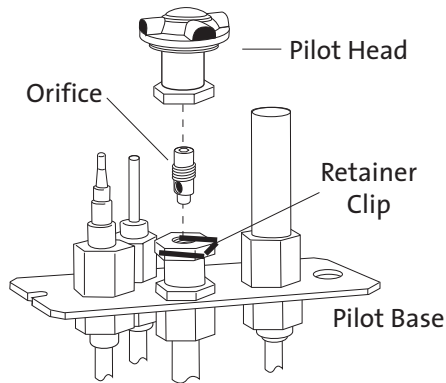

Figure 20. Pilot orifice removal and replacement.
10. Change the Pilot Orifice: From within the firebox, remove the Pilot Head by pulling it straight up from the pilot base. See fig. 20.
11. Tighten orifice into the base of the pilot assembly. To prevent bypass leaks, be sure the orifice is secured tightly and flush with the base. Replace pilot head by pushing it down onto the pilot base. See fig. 20.